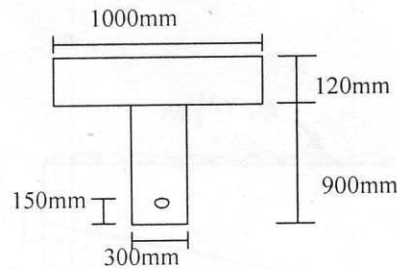

Figure 1
2. A section of a simply supported composite beam of 20m span is shown in Figure 1. The precast stem is prestressed with an effective force of 1200 kN assuming a total loss as 20%. After this precast portion is erected in place, a top slab of 120 mm by 1000 mm wide is cast in place. After the slab concrete has hardened the composite section is to carry a uniformly distributed live load of 50 kN/m. Self weight of precast stem is 10kN/m. Moment at midspan due to top slab is 120 kN-m. Compute the stresses in the section at different stage of loading. Also draw the stress distribution at different stage of loading for the section. (18+7)